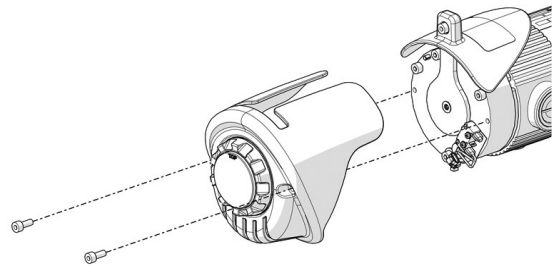

Fig. 2. The drive Motor Cover is fitted with two screws.
3. Fit the drive motor cover with the two attached screws. See fig. 2. On cover with indicator, position it's cabling together with the drive motor cabling in to the wheelchairs chassis.